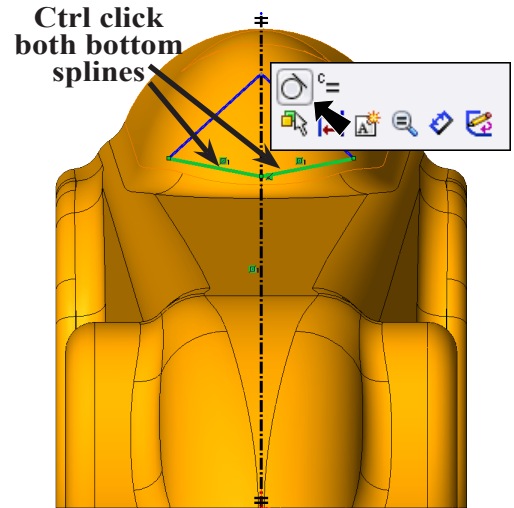

Fig. 143
Step 12. **Ctrl click** both **bottom** splines to select both splines, release Ctrl key and click **Make Tangent**  on the Content menu, **Fig. 143**.